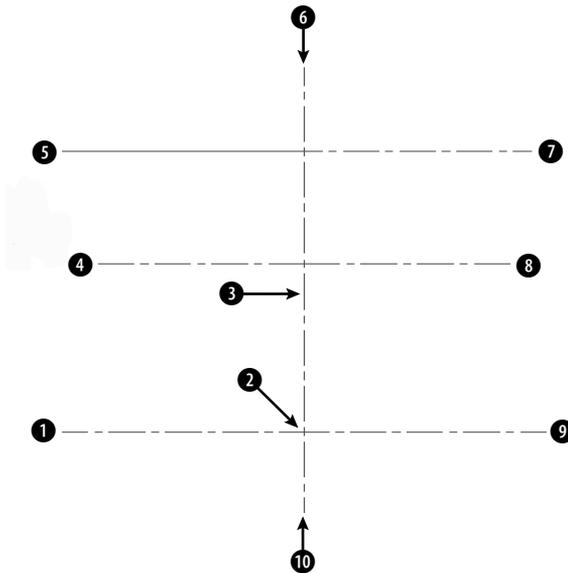

Figure 21-17: These centerlines are the basis for drawing a chair.
3. Choose Circle from the Draw toolbar. Use the From object snap to specify the center at @2,0 from ❶ in Figure 21-17. Set the radius to 0.5.
5. Click ORTHO on the status bar to turn it on. Choose Mirror from the Modify toolbar. The circle should be selected. (If it isn't, select it.) Specify the endpoint at ❷ for the first point of the mirror line. Specify any point vertical to ❸ for the second point of the mirror line. Choose not to delete the source object (the circle).
9. Choose Polyline from the Draw toolbar. At the Specify start point: prompt, choose the From object snap. Use the Center object snap of the top of the circle near **1** in Figure 21-17 for the base point and an offset of @-2,0. (You may have to tab to get the Center object snap.) Continue to pick points **4** through **10**. Notice that the Endpoint object snap symbol appears at the height of the first point. Then right-click and choose Close to close the polyline.